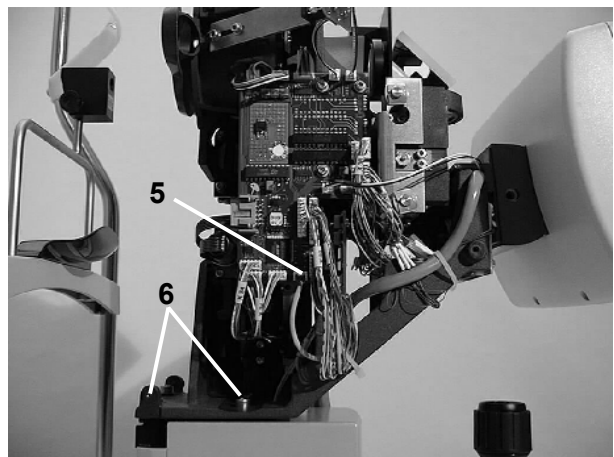

Fig. 5b
- Unplug connector ((5) Fig. 5b) and cut open the cable tie.
- Remove four screws ((6) Fig. 5b) and remove the IOLMaster head.
- Remove both covers from the new head, place the head on the base, push the head backward (toward the user) as far as it will go and secure it in position by tightening screws ((6) Fig. 5b).
- Re-establish connection ((5) Fig. 5b) and attach a new cable tie.